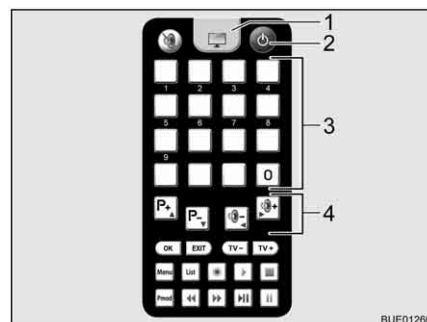

Fig. 32 Remote control for television
- Press the key "⏻" (Fig. 32,2) on the remote control for the television. The unit switches to search mode. You will hear a continuous tone.
- To switch to television reception on the TV remote control, press the TV button (Fig. 32,1). The signal tone will stop. An image will appear on the screen.
- Use the memory buttons (Fig. 32,3) on the TV remote control or the function buttons (Fig. 32,4) to select the desired station.